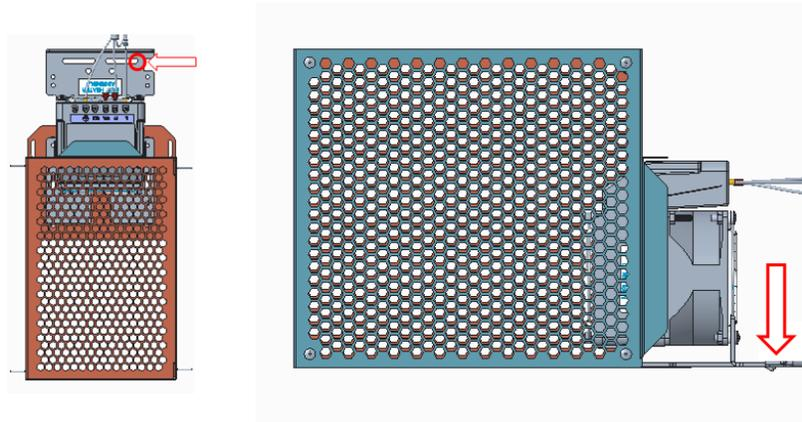
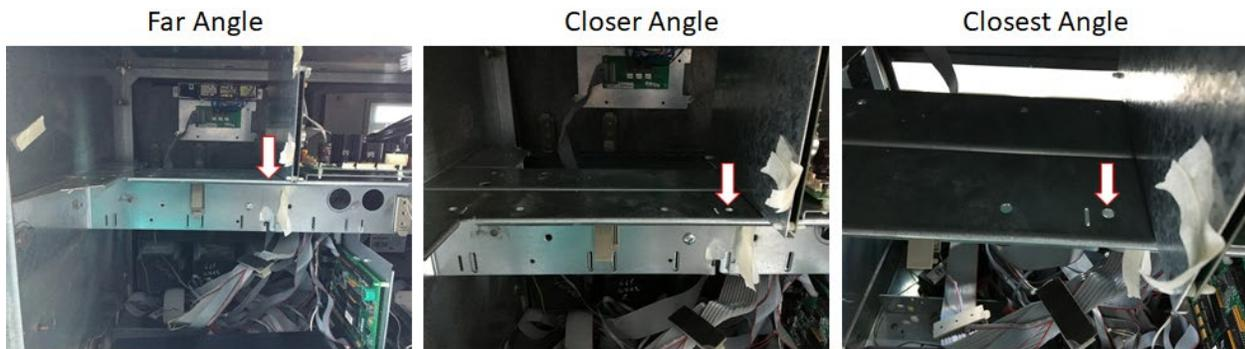

Figure 144
Figure 145
- 6) The screw and nut should be installed at the locations called out in Figure 144 and Figure 145.